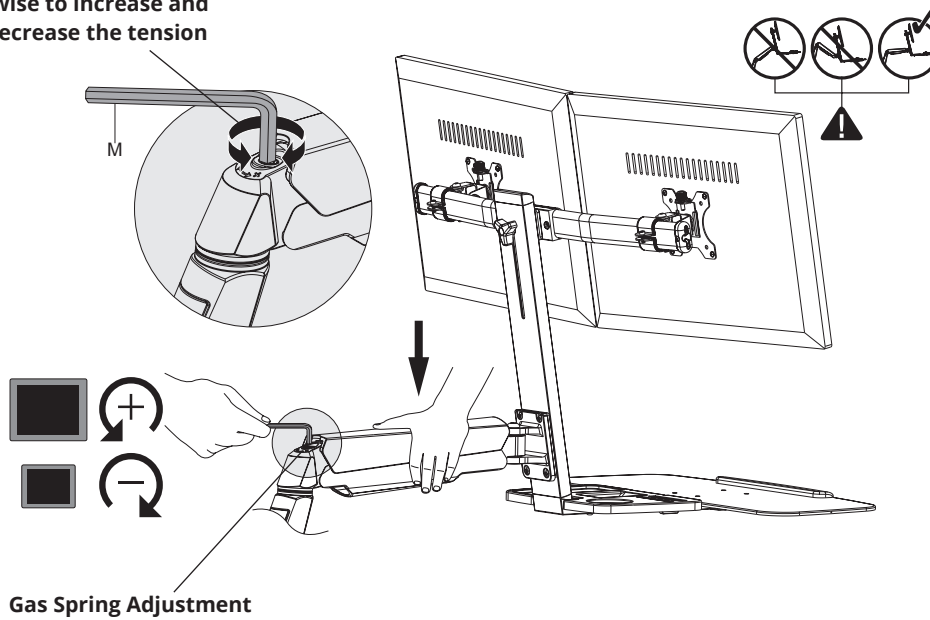

Figure 13
1. Adjust the tension of the gas spring using Allen Key (M), turn the screw counter clockwise to increase the tension (for heavier monitors) and clockwise to decrease the tension (for lighter monitors), see Figure 13.